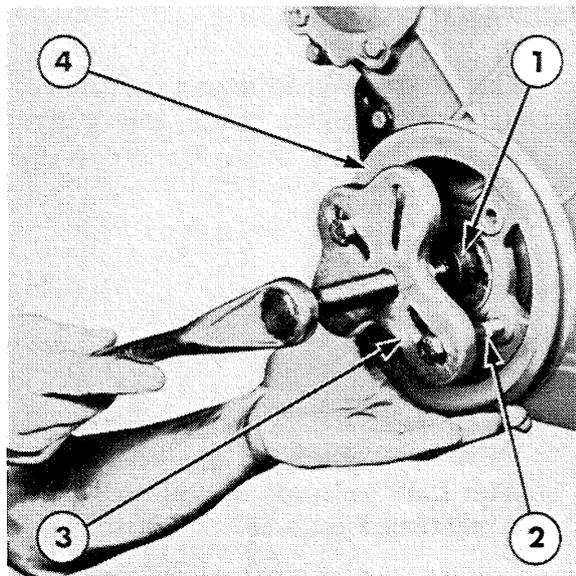

Figure 19
3. Using Puller No. 518 or 9539 and Shaft Protector No. 625-A or 9212, remove the crankshaft pulley, Figure 19.